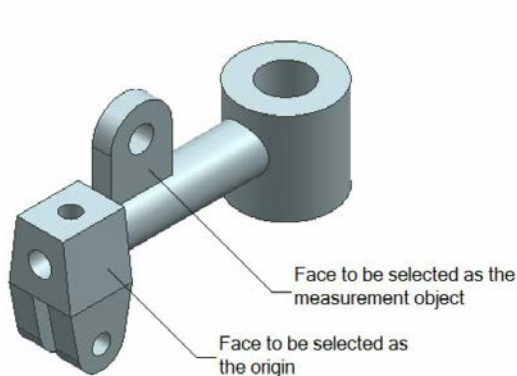

Figure 13-124 Faces to be selected
- Align the face of the single flange using the **Angular Dimension** tool, refer to Figure 13-124.
2. Select a face of the block as the origin, refer to Figure 13-124; the **Measurement Object** button is chosen automatically in the **Measurement** rollout. Now, select a face of the single flange as the measurement object, refer to Figure 13-124; a cursor with the angle value attached to it is displayed in the graphics window.